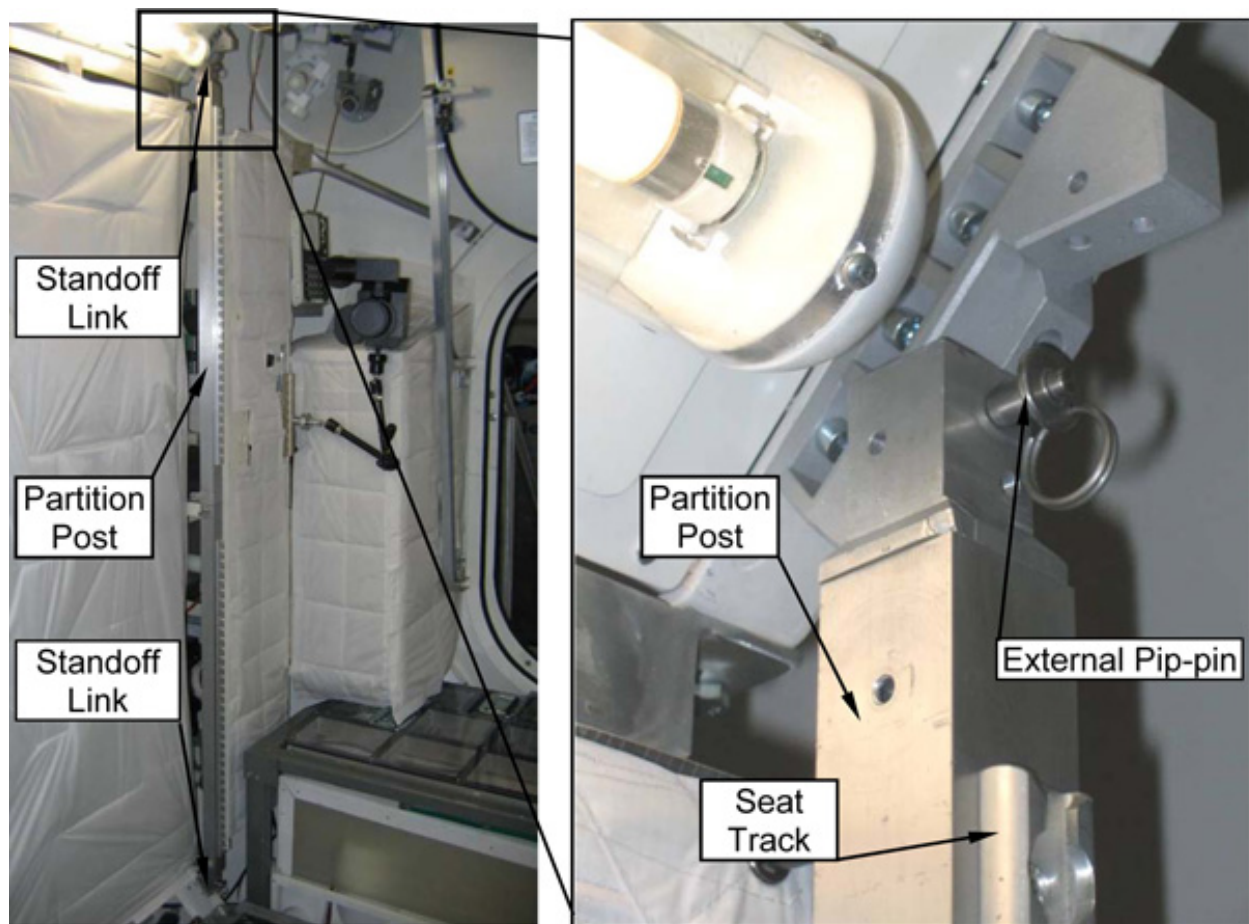

Figure 1. Partition Post installed at rack bay A1 (training Mock Up)
Refer to Figure 1.
- 1.2 Remove Partition Post External Pip-pin from upper standoff link. Refer to Figure 1.